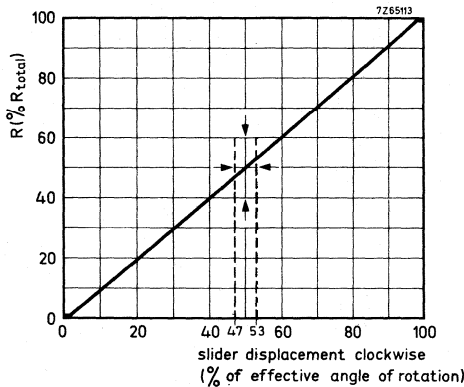

Fig. 4 Linear resistance law.
- Resistance law and tolerances linear, see Fig. 4